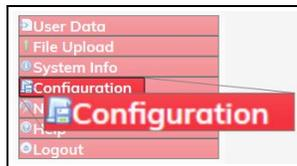

Figure 301: Configuration link
4. On the **Menu** list, click the **Configuration** link. Figure 301